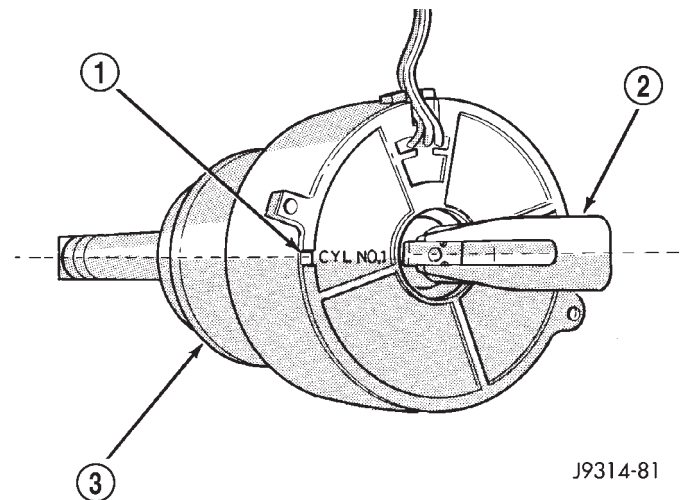

Fig. 32 Rotor Alignment Mark—3.9/5.2/5.9L Engines
(8) The distributor rotor should now be aligned to the CYL. NO. 1 alignment mark (stamped) into the camshaft position sensor (Fig. 32). If not, rotate the crankshaft through another complete 360 degree turn. Note the position of the number one cylinder spark plug cable (on the cap) in relation to rotor. Rotor should now be aligned to this position.
- (1) Clean top of cylinder block for a good seal between distributor base and block.
- (2) Lightly oil the rubber o-ring seal on the distributor housing.
- (3) Install rotor to distributor shaft.
- (4) Position distributor into engine to its original position. Engage tongue of distributor shaft with slot in distributor oil pump drive gear. Position rotor to the number one spark plug cable position.
- (5) Install distributor holddown clamp and clamp bolt. Do not tighten bolt at this time.
- (6) Rotate the distributor housing until rotor is aligned to CYL. NO. 1 alignment mark on the camshaft position sensor (Fig. 32).